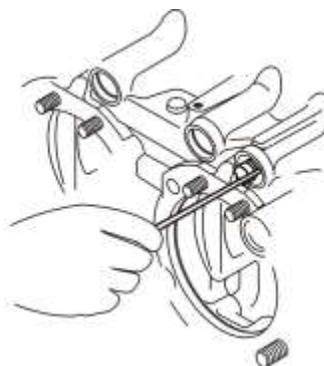

Figure 11
(3) Push the hollow end of the Tappet Assembly Tool over the hydraulic tappet plunger and withdraw the plunger.
(4) Bend a right angle in one end of a piece of wire and insert this end into the space between the plunger assembly and the tappet body. Turn the wire 90° to engage a coil of the spring and draw out the hydraulic tappet plunger assembly. Refer to Figure 11.